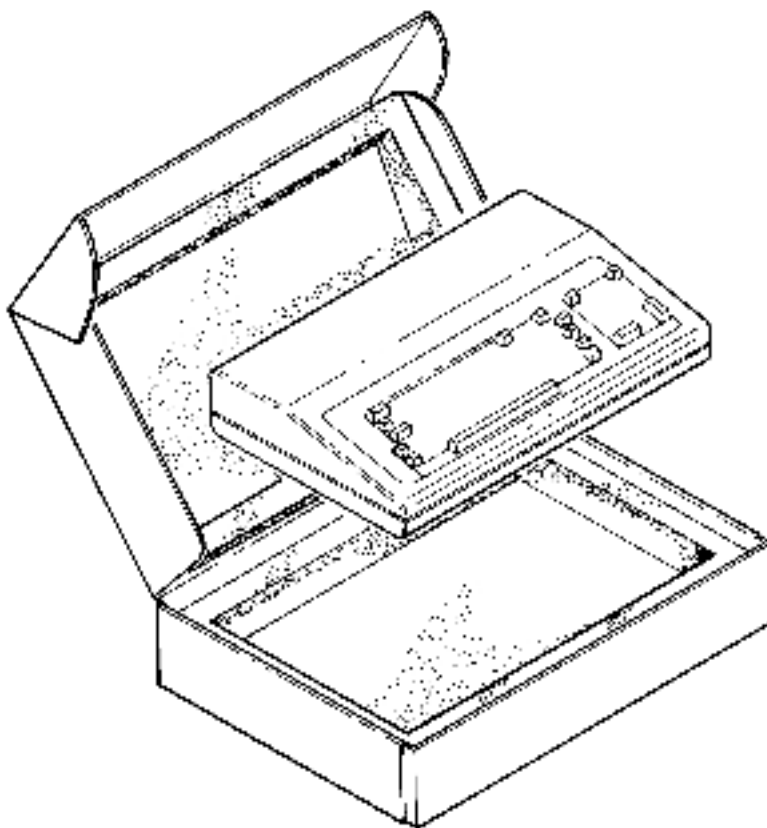

Figure 2-2 VK100 (GIGI) Terminal Shipping Container
Figure 2-2 shows the packaging used with the VK100 terminal. Use the following procedure to unpack the terminal from the shipping carton.
4. Repack the terminal in the shipping carton (Figure 2-2). Include the power cord and video cable in the shipping carton.